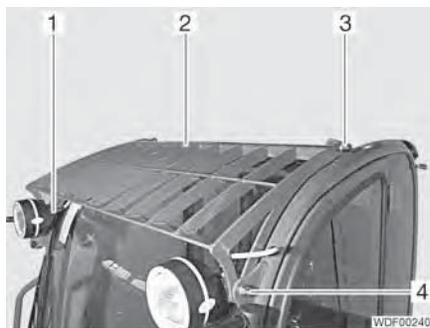

Fig. 361 Roof grille attachment
- Unplug 1 plug (Fig. 361,1) from the headlight on each side.
- Remove 4 caps (Fig. 361,3).
- Unscrew the 4 nuts (Fig. 361,4).
- Remove the roof grille (Fig. 361,2).
- Screw the 4 nuts (Fig. 361,4), with washers, onto the bolts and tighten.
- Fit the 4 caps (Fig. 361,3) onto the nuts.
- Plug 1 plug (Fig. 361,1) onto the headlight on each side.